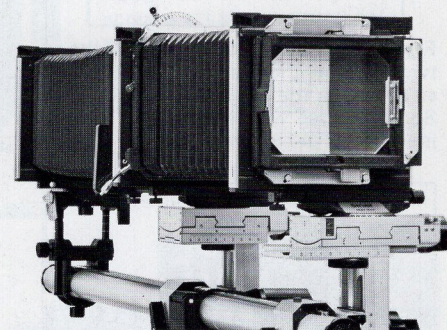

Fig. 3.52
2. Splitting up the image area with stationary framing, Fig. 3.52
* If the 4×5 inch format is to be halved, the centre point for the lateral adjustment is 1 cm to the right of the black 0 mark. (Fig. 3.52)